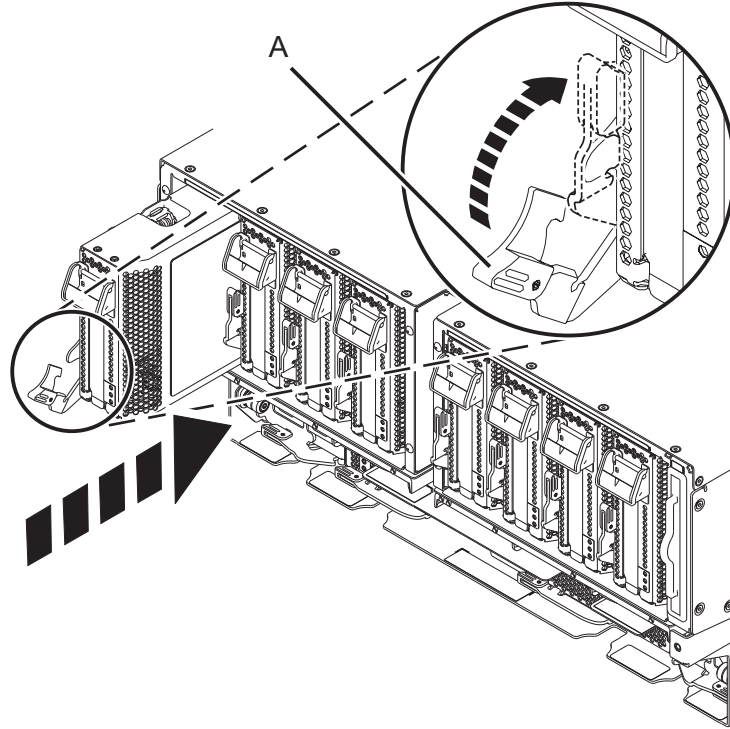

Figure 9. Installing a PCIe adapter cassette in the system
- a. With the cassette handle (A) in the open position, carefully grasp the adapter cassette by its edges, and then align the adapter cassette with the slot. See Figure 9 on page 9.
- c. When the cassette is fully inserted into the slot, rotate the terracotta cassette handle (A) in the direction that is shown in Figure 9 on page 9 to lock the adapter cassette in the slot.